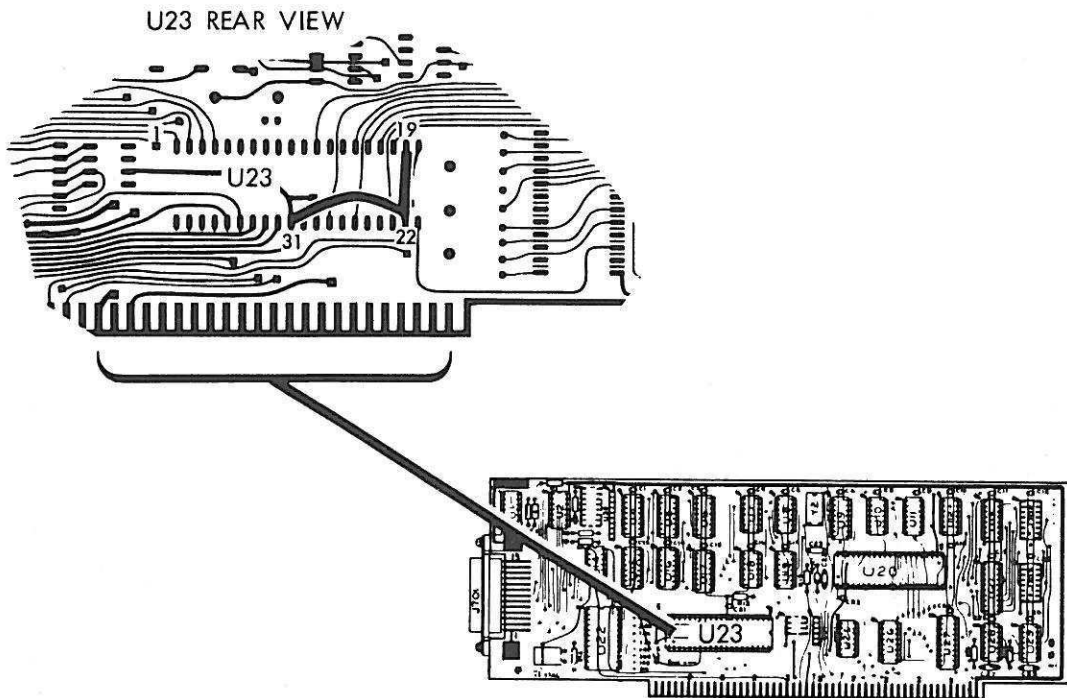

Figure A-1. RS-232C Jumper Wire Installation
- STEP 3. Verify that there are connections between pins 19, 22, and 31 on U23 of the RS-232C circuit card, P/N 45905, (Figure A-1). If not, then continue with Step 4, otherwise go to Step 5.
- STEP 4. On U23 (Z80-SIO) jumper pin 19 and pin 22 to pin 31 (Figure A-1).